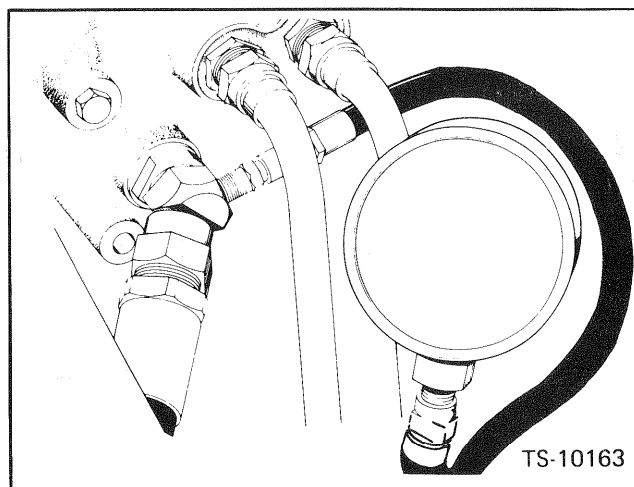

Fig. 11-2 Main Relief Valve Pressure Check
1. Remove the floor panel and attach a hydraulic gauge of at least 3,000 p.s.i. capacity to the hose fitting on the main control valve. Fig. 11-2
6. Put the ARCH into its full up position and hold. The gauges should register 2,000 p.s.i. at 2,000 rpm with the steer-blade relief valve temporarily set at 2,300 p.s.i. If not, adjust the relief valve on the arch and grapple control valve by removing the acorn nut, loosening the jam nut and adjusting the set screw located on the forward side of the valve assembly until 2,000 p.s.i. registers on the gauge. Fig. 11-2. Release the arch control lever.
7. Put the BLADE into its full up position and hold. Re-adjust the main relief pressure on the steer and blade control valve to 2,000 p.s.i. steer and blade control valve to 2,000 p.s.i. Fig. 11-2. Release the blade control lever.